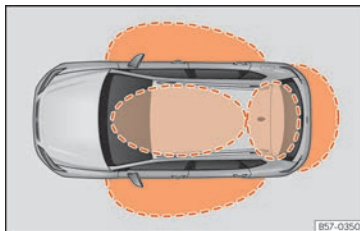
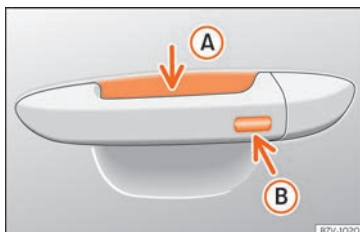

Fig. 91 Keyless Access: proximity zones.
Fig. 92 Door handle: sensor surfaces
>>> Fig. 92
Keyless Access is a key-free locking and ignition system to unlock and lock the vehicle without actively using its key. To do this, all that is required is to have a valid vehicle key in the detection area where you are attempting to access the vehicle » **Fig. 91** and to touch one of the sensor surfaces on the door handles » **Fig. 92** or operate the *softtouch*/handle on the rear lid » **page 110** » **!**.
If a valid key is in the proximity of the car, » **Fig. 91** the Keyless Access locking and starting system gives the key entry as soon as one of the sensor surfaces on the door handles is touched or the *softtouch*/handle on the rear lid is operated.
- Grip one of the front door handles. When you do this, you touch the sensor surface » **Fig. 92** **(A)** (arrow) of the handle and the vehicle unlocks.
- Touch (*once*) the locking sensor surface » **Fig. 92** **(B)** (arrow) on one of the front door handles. The door that is used must be closed.
- Touch (once) the sensor surface »» Fig. 92 **B** (arrow) on one of the front door handles. The vehicle locks with the “Safe” security system »» page 105. The door that is used must be closed.
- Touch (twice) the sensor surface »» Fig. 92 **B** (arrow) of one of the front door handles to lock the vehicle without activating the “Safelock” security system »» page 105.
When the vehicle is locked, the rear lid automatically unlocks on opening if there is a valid vehicle key in the proximity zone »» Fig. 91.
- Push the central locking button  on the remote control and touch the locking sensor surface of the driver door handle »» Fig. 92 **B** (arrow) within the following 5 seconds. Do not grasp the door handle; otherwise the vehicle will not unlock. Deactivation is also possible if the vehicle is locked through the driver's door lock.
To close all the electric windows and the sunroof using the **comfort function**, keep a finger for a few seconds on the locking sensor surface »» Fig. 92 **B** (arrow) of the door handle until the windows and roof have closed.
The sensor surfaces on the door handles could engage if hit with a water jet or high pressure steam if there is a valid vehicle key in the proximity. If at least one of the electric windows is open and the sensor surface »» Fig. 92 B (arrow) on one of the handles is activated continuously, all windows will close.